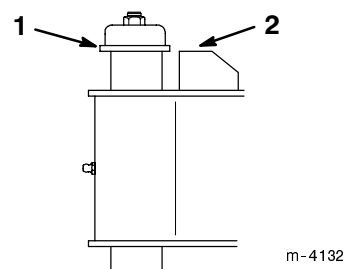

Figure 12
- When sweeping, try to keep the flange on the top of the pivot pin level with the gage plate (Fig. 12). This will allow you adequate room for movement if you run over bumps or low areas.